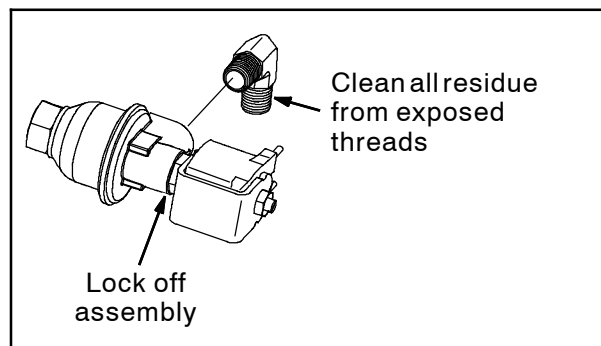

FIG. 9
11. Use Loctite® 7649 to clean all residue from the threaded portion of the lock off assembly fitting previously attached to the defective vaporizer. (Fig. 9)
13. Apply a coat of Loctite® 567 thread sealant onto the exposed threaded portion of the lock off assembly fitting. (Fig. 9)